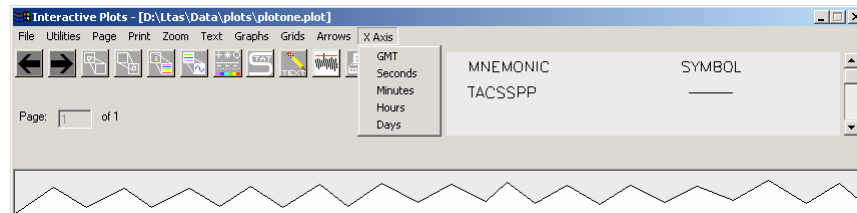

Figure 26: X-Axis Options
- Select X-axis from the Interactive Plots main window (see Figure 26).